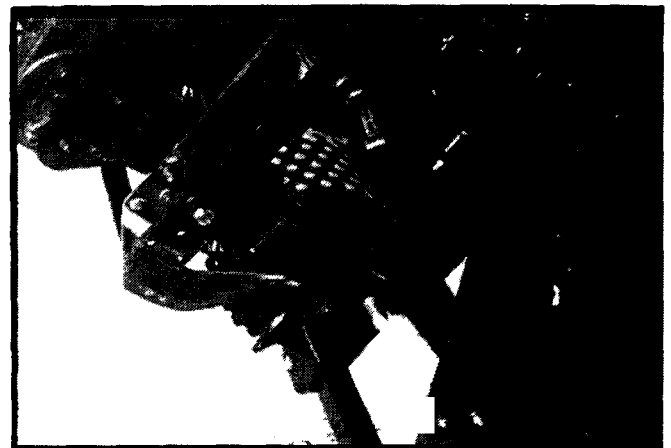

Figure 17
6. Center the sod cutter on the trailer then adjust the wheel stops so there is approximately a 1/4" (6 mm) space between the stop and the wheels. Tighten the wheel stops and lock the wheel locking lever into position (See Figure 17).